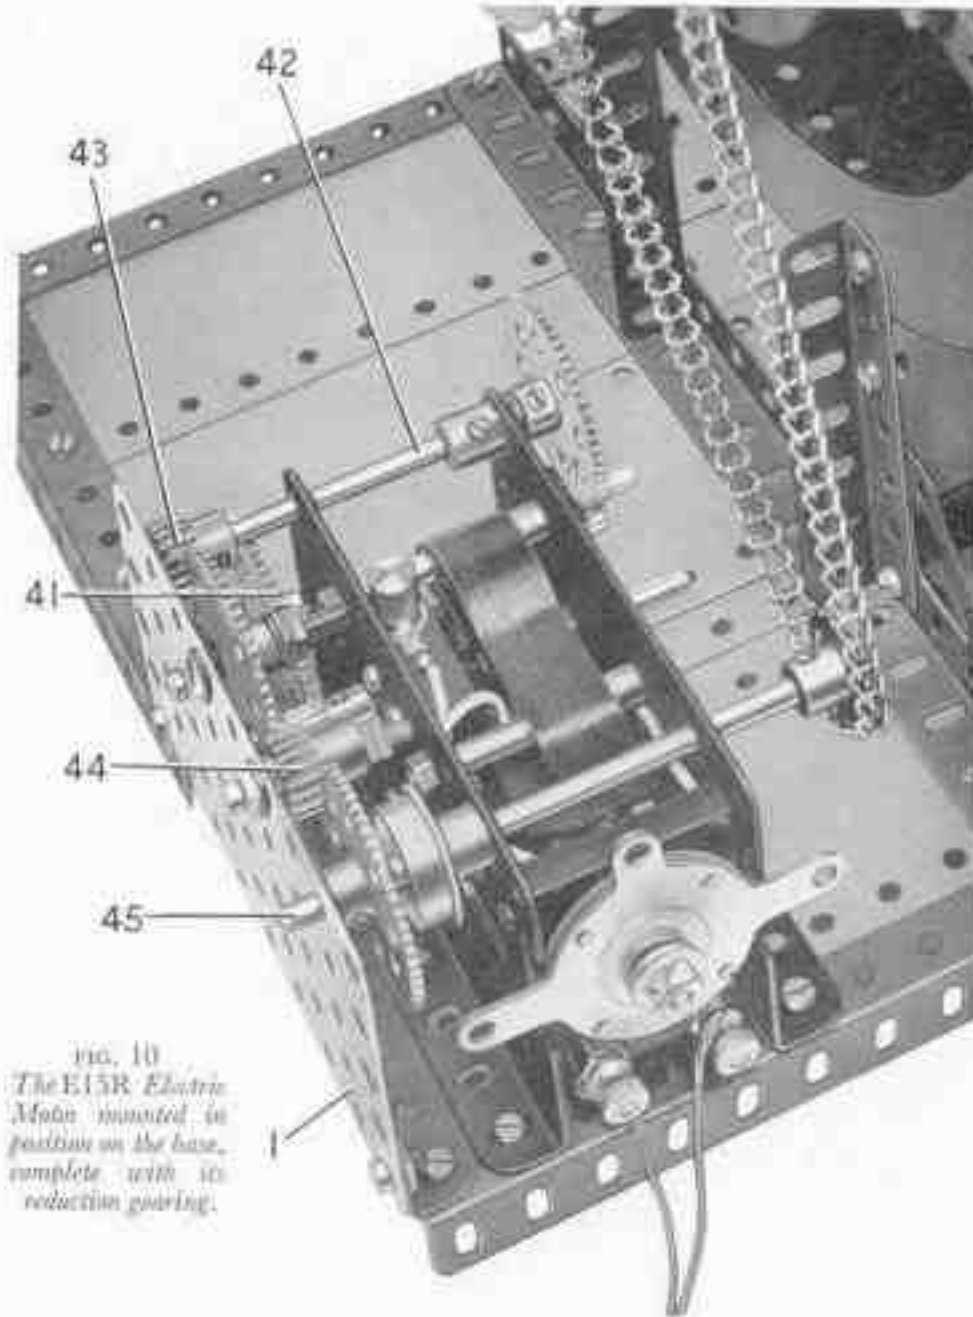

FIG. 10
An E15R Electric Motor is bolted by its flanges to the base (Fig. 10), and a $\frac{1}{8}$ " Pinion on its armature shaft drives a 60-tooth Gear (41) on a Rod mounted in the Motor side-plates. A $\frac{1}{2}$ " Pinion on the same Rod engages a 57-tooth Gear on a Rod (42), which carries also a $\frac{1}{2}$ " Pinion (43). The Rod (42) is held in place by the remaining half of the Dog Clutch left over after the completion of the magneto. Pinion (43) is in mesh with a 57-tooth Gear that is free to turn on a $1\frac{1}{4}$ " Bolt, but is retained on the Bolt by lock-nuts. This Bolt is first fitted with a nut and a Washer, and is then passed through the Flat Plate (1) and is fixed in place by a further nut. The 57-tooth Gear drives